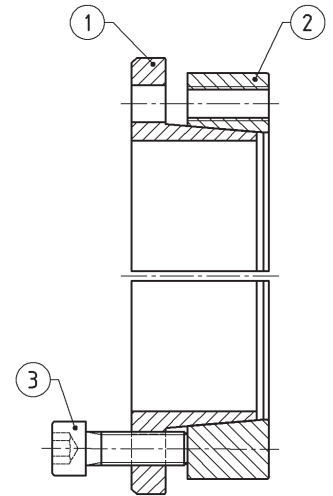

Figure 2
(Refer to Figure 2)
2. Loosen all locking screws by a minimum of four (4) turns and transfer at least two (2) screws to push-off threads in clamp collar Item 1 to disengage this part from center collar Item 3. Similarly, transfer at least two (2) screws to push-off threads in center collar Item 3 to disengage this part from clamp collar Item 2 (see Figure 2).